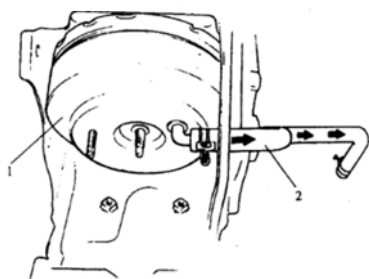

Fig.3.7-16
- 3) Disassemble the vacuum hose (I) from the vacuum booster. (Fig.3.7-16)